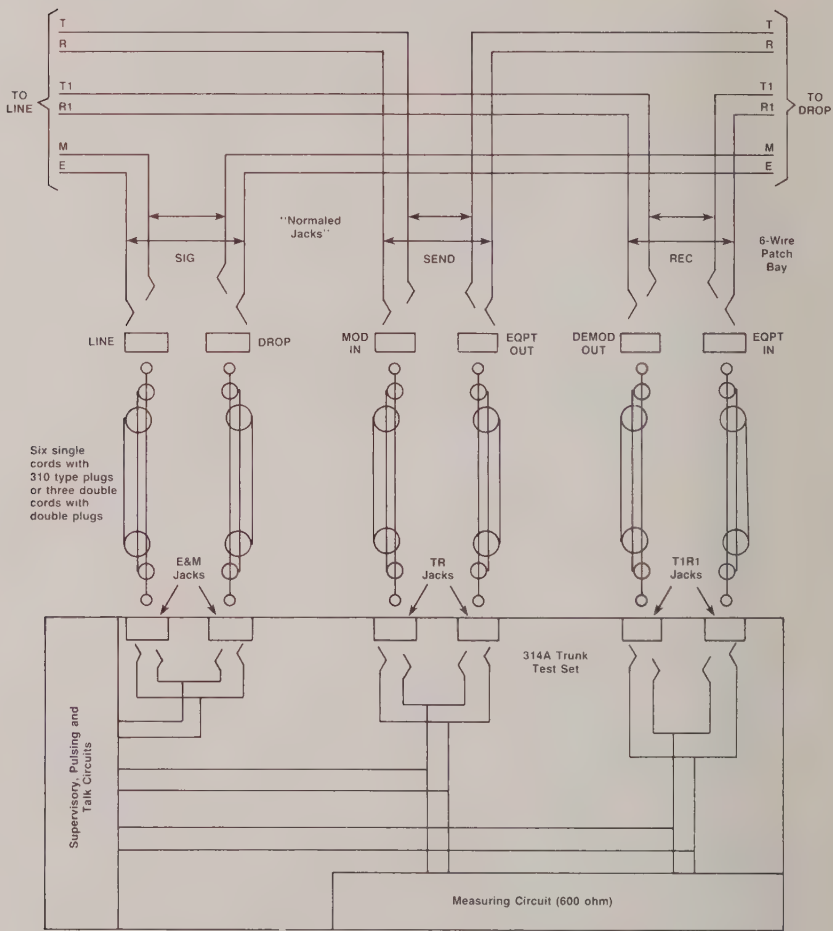

Figure 5. Connections to Test 4-Wire Circuits with E&M Supervision
3.29 Figure 5 shows the connections required for testing carrier derived 4-wire circuits, with E&M supervision, at the 6-wire patch bay location.